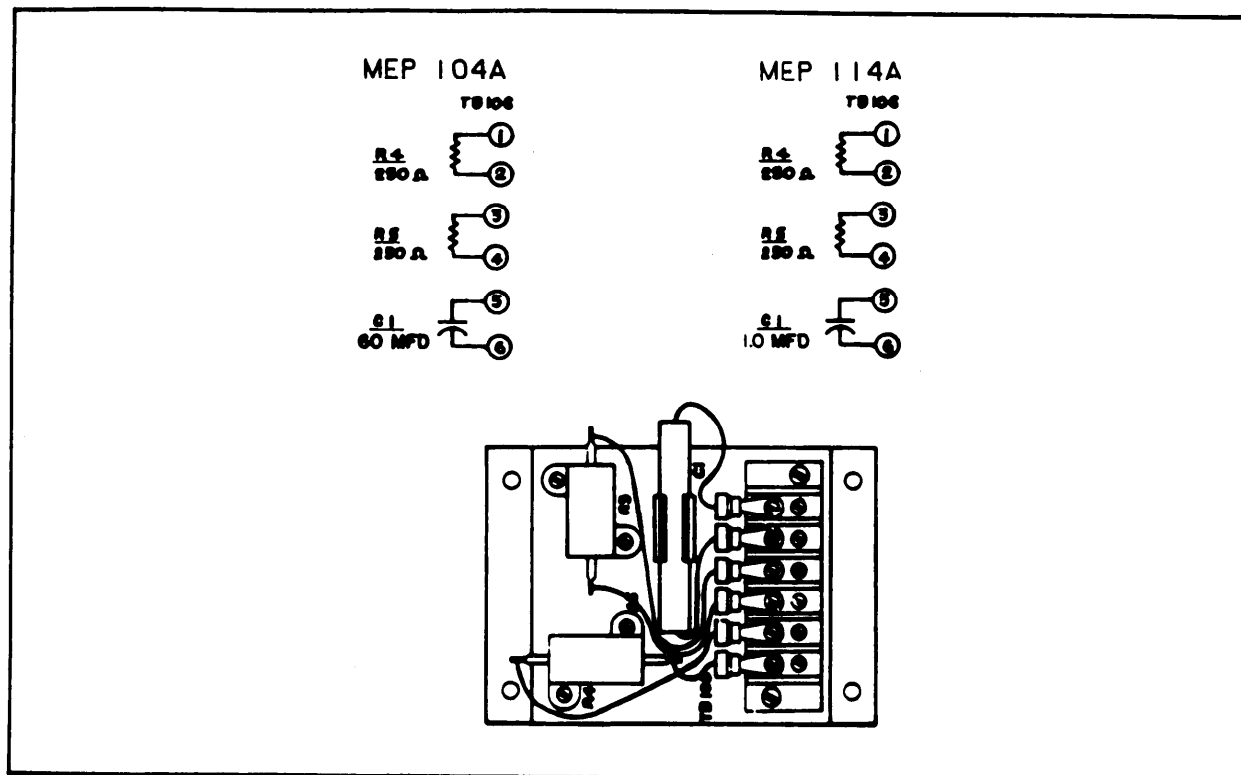

Figure 5-27. Electronics Components Assembly
(11) Replace relays which fail to perform as specified.
(12) Test electronic components assembly as follows: (See schematic diagram in figure 5-27.)
(13) Replace defective components of electronic components assembly using figure 5-27 as a guide, and Appendix A references for detailed soldering and replacement procedures.